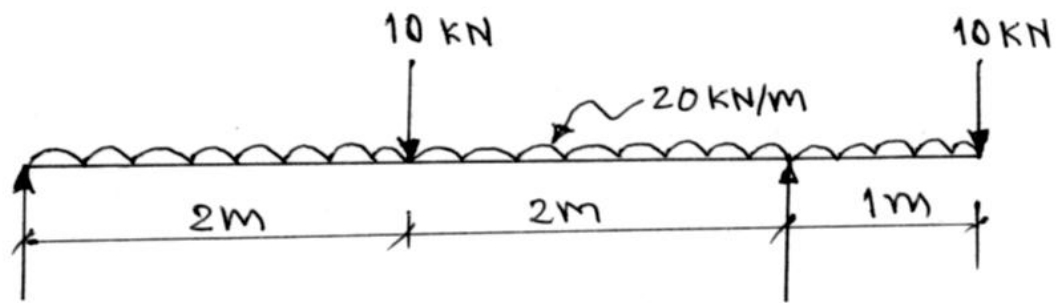

Fig. 1 Q.2(b) OR
- (b) Draw shear force and bending moment diagram for the beam shown in Fig.1 Also locate point of contra flexure, if any. **07**